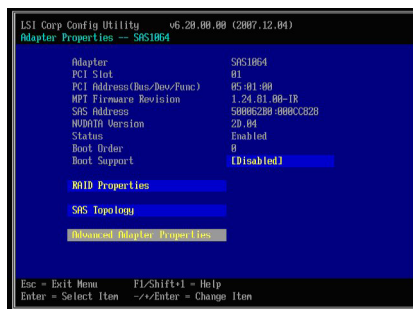

Figure 5. Disabling boot support for the SAS Expansion Card
2. Use the arrow keys to select the SAS Expansion Card then press Enter to display the Adapter Properties screen. Ensure that **Boot Support** is set to **[Disabled]**, as shown in Figure 5. When the boot support is disabled, the LSI Adapter BIOS will not scan the data drives for boot devices.